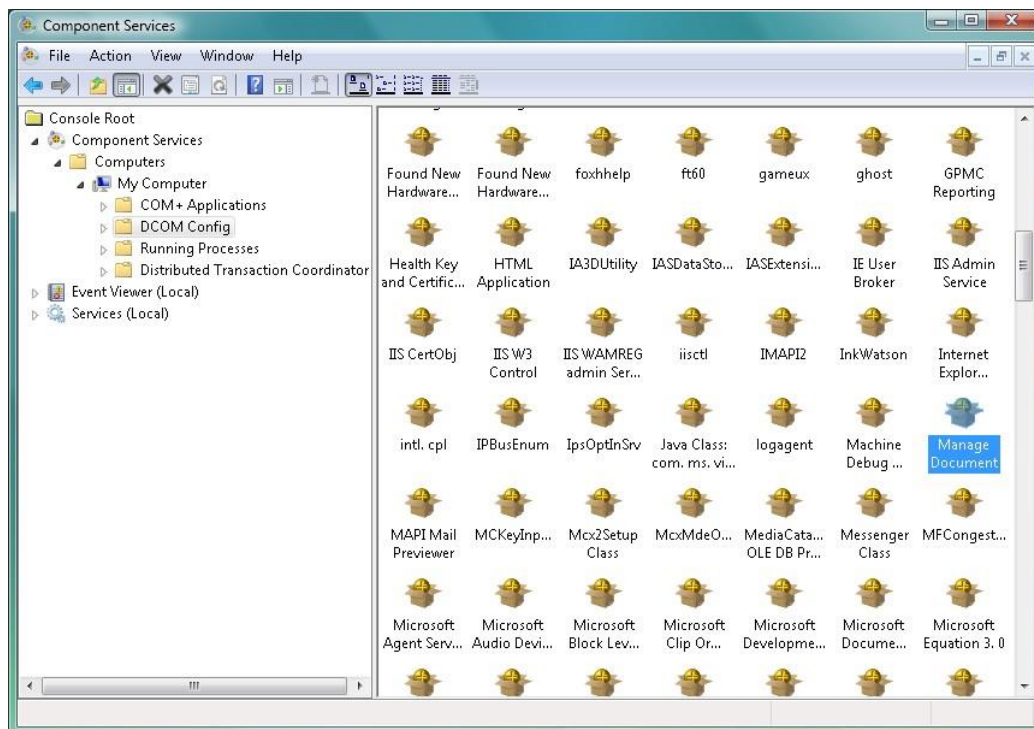

Figure 26: Component Services Window
12. Type **dcomcnfg** in the Open field and click **OK**. The Component Services window is displayed as shown in Figure 26.